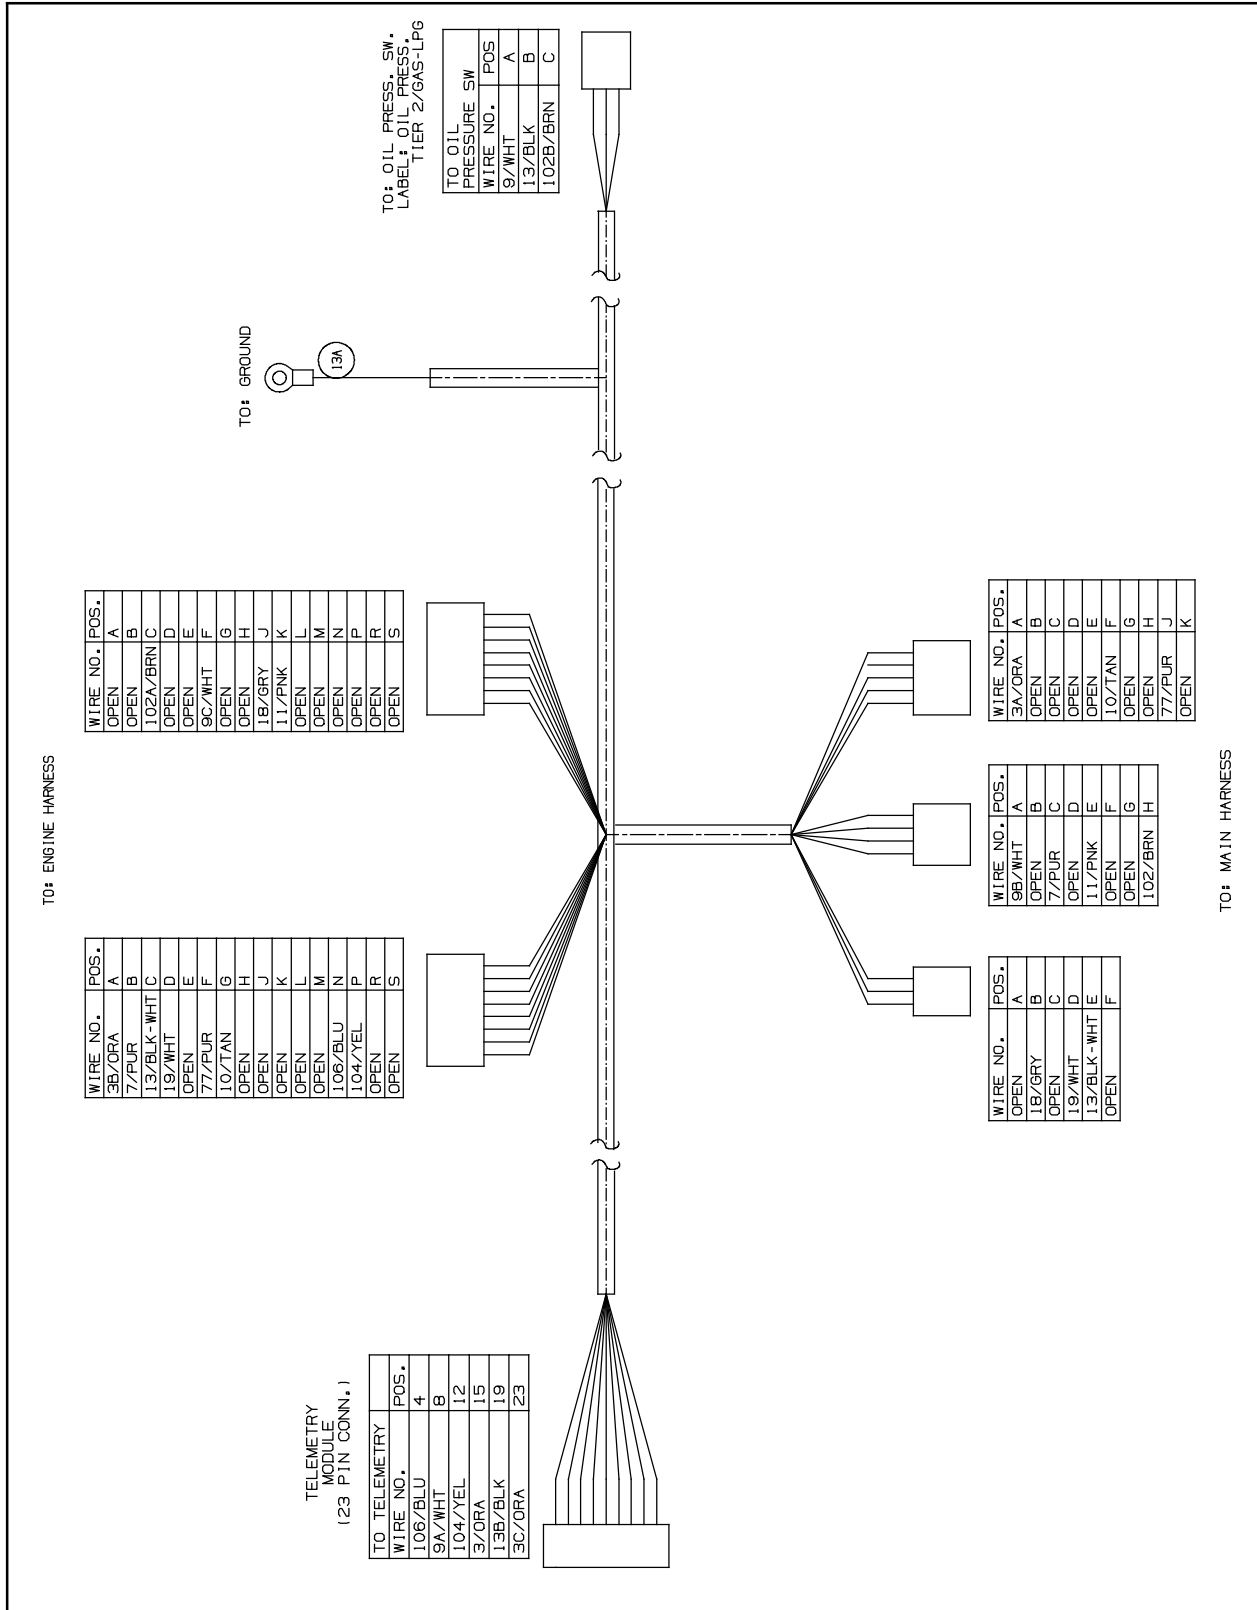

FIG. 4 - Gas / LP
- Connect the telemetry harness (4) to the engine harness / main wire harness where removed harness was previously installed. (Fig. 4 / Fig. 5)